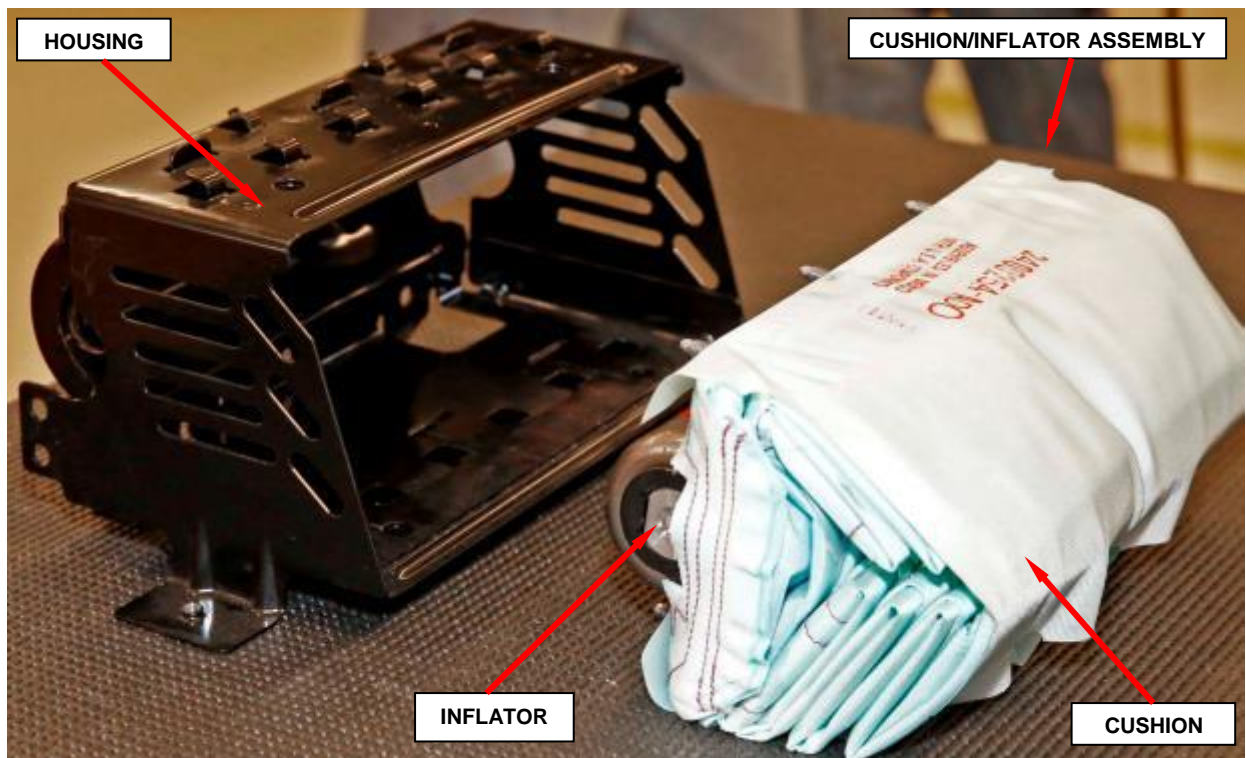

Figure 21 – Cushion/Inflator Assembly
- e. Remove the cushion/inflator assembly from the housing (Figure 21).